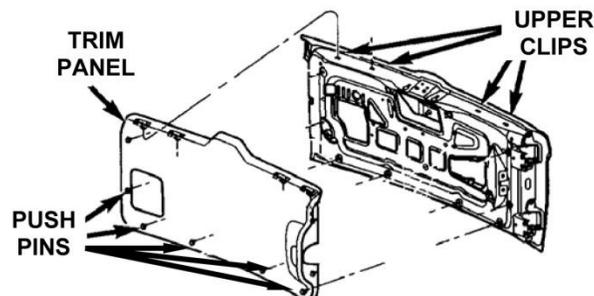

Figure 1
3. Using a trim stick, release the push pin fasteners along the bottom and latch side of the swing gate trim panel (Figure 1)
4. Pull the bottom of the trim panel out and then use the trim stick to release the upper trim panel clips. Set the trim panel aside (Figure 1). CAUTION: Use care when releasing the upper clips so as to not damage the trim panel.